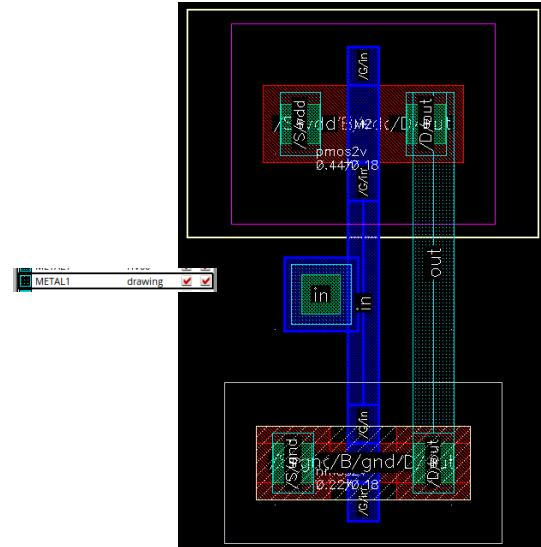

Figure 7: Metal 1 wire creation.
- Select the first level of metal layer on the drawing layers panel on the left by choosing *METAL1 – drawing*, as depicted in Fig. 7.